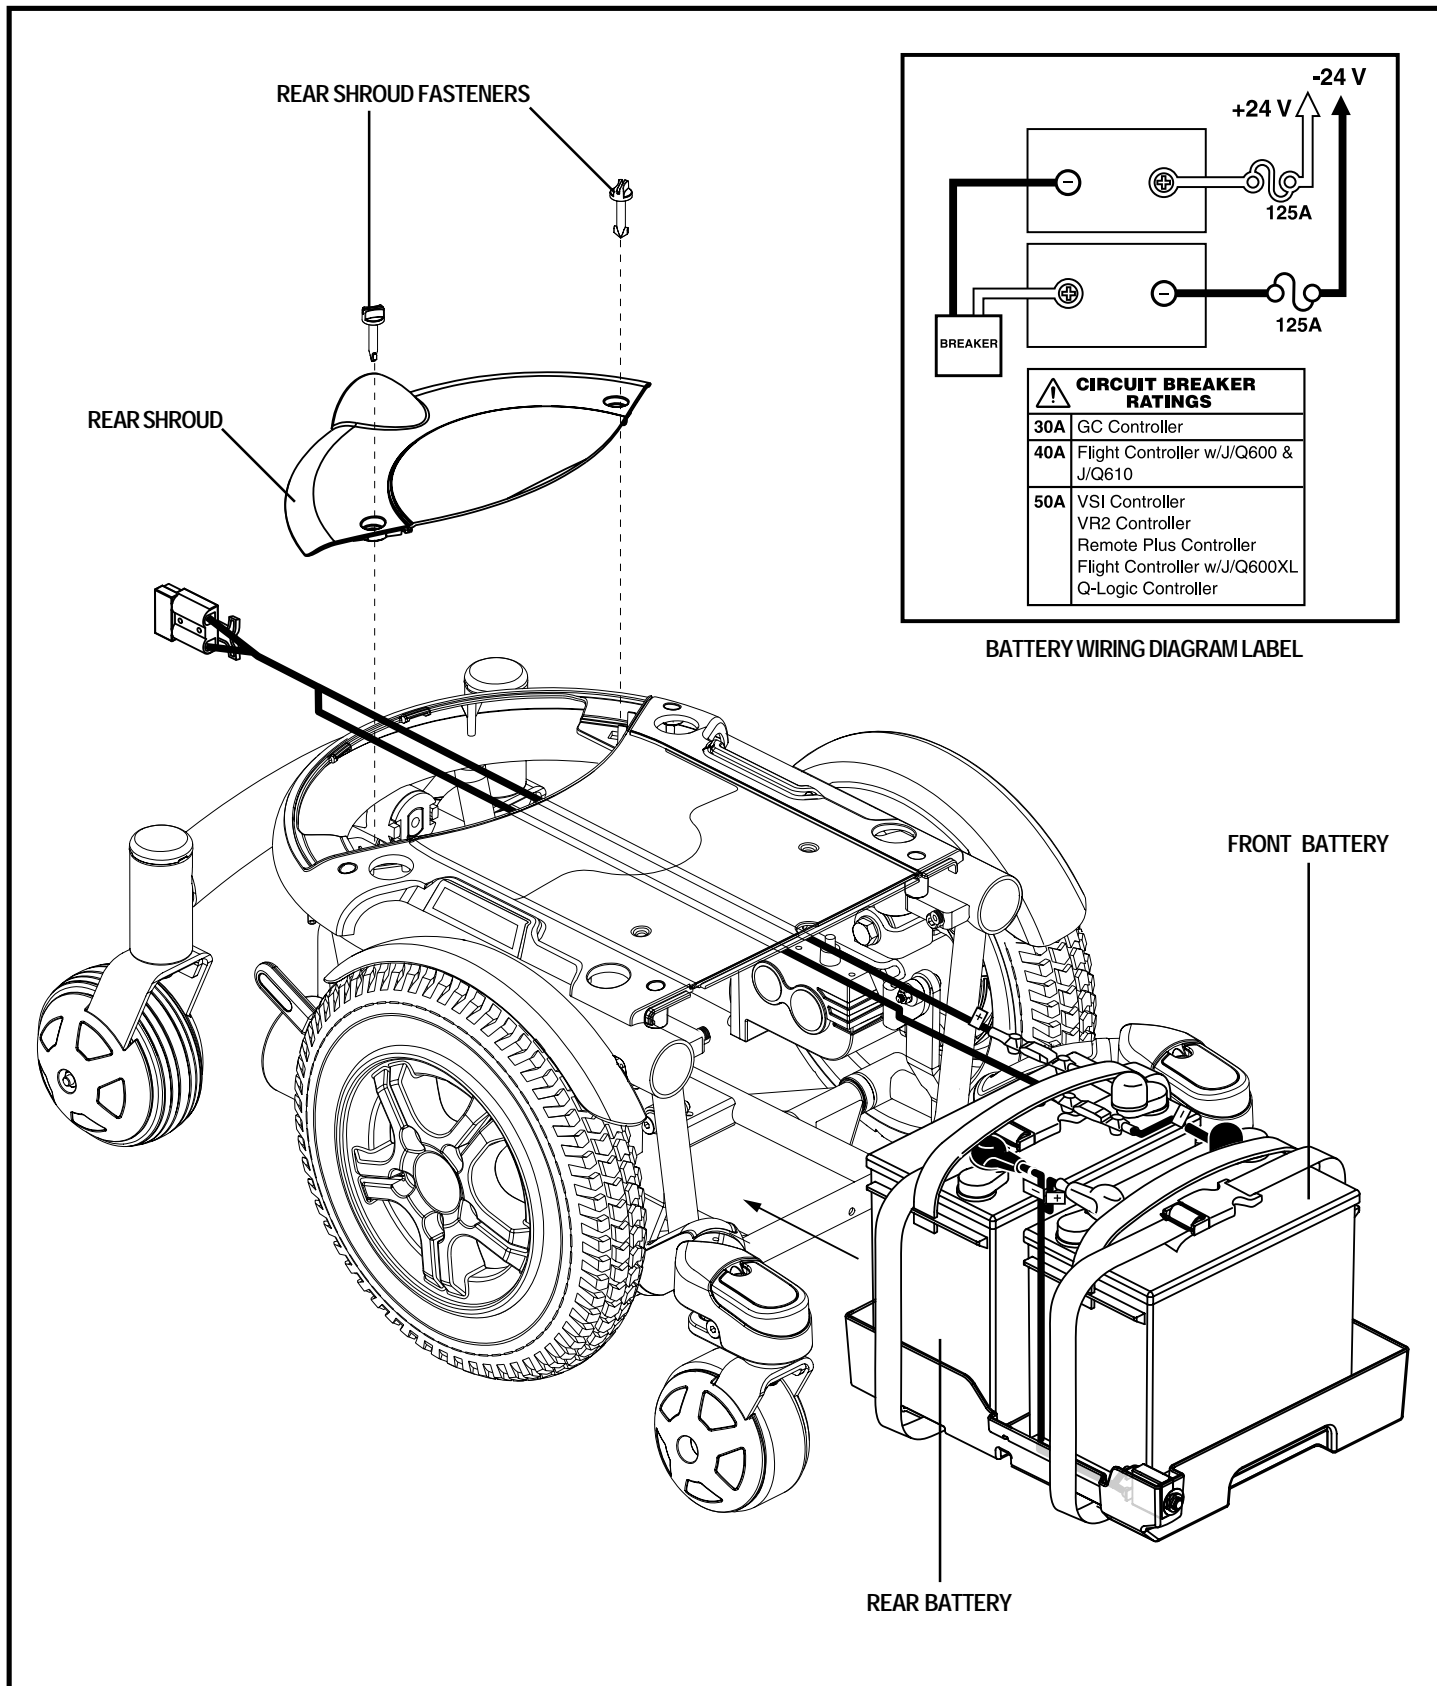

Figure 24. Battery Installation
13. Connect the battery harness to the front battery according to the battery wiring diagram. See figure 24.